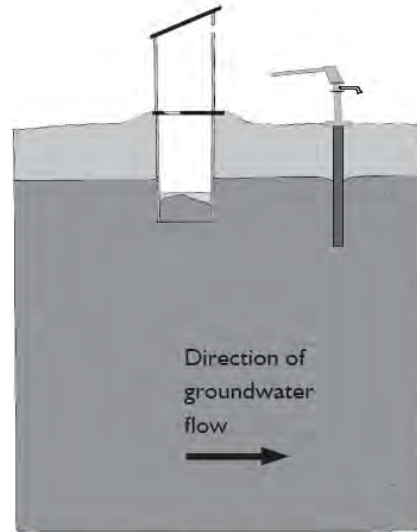

Figure 2 : Latrine with pit below water table
When the pit is dug below the water table, contaminants from the latrine will enter the groundwater. This is shown in Figure 2. When there is not enough vertical separation between the bottom of the pit and the water table, contaminants from the latrine will enter the groundwater. Let's **look** at how horizontal separation can reduce the contamination at the water source, even when the groundwater below the pit is contaminated.
**Note:** the arrow in Figure 2 shows the direction of groundwater flow. In this case, the harmful latrine liquids are moving toward the hand pump. If the flow was reversed, the latrine effluent would be moving away from the hand pump and would pose little risk of contamination. However, a minimum horizontal separation of 15 meters should be maintained because of fissures or cracks in the soil caused by construction.